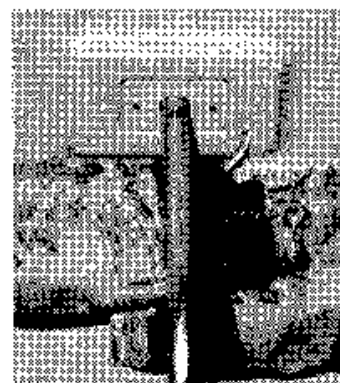

Fig. 5
17. Insert bed bow support pole at bow peg. Push bow outward and upward while pressing on button farthest from the end and slip into bracket mounted on roof. Release button. Fig. 5
5. Remove bow braces located in the bed and slideout areas from bracket on the roof and pull brace to center of coach. Remove from peg on bed bow. Place bows under bed mattress. Fig. 5